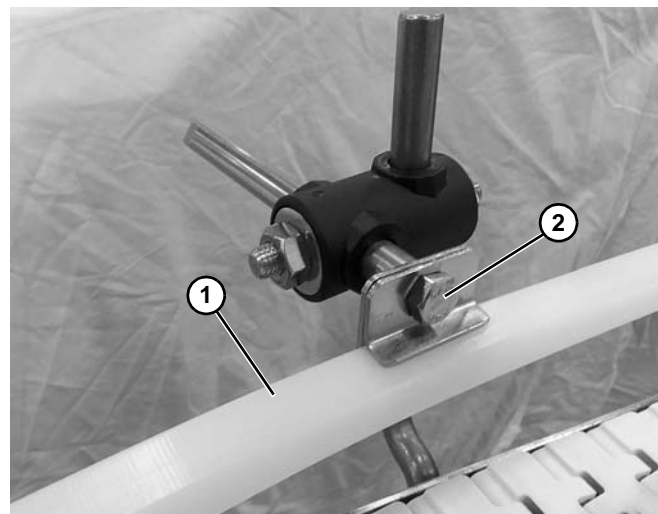

Figure 38
3. Install guide rail (Figure 38, item 1) into rail clamp. Tighten fastener to secure (Figure 38, item 2).